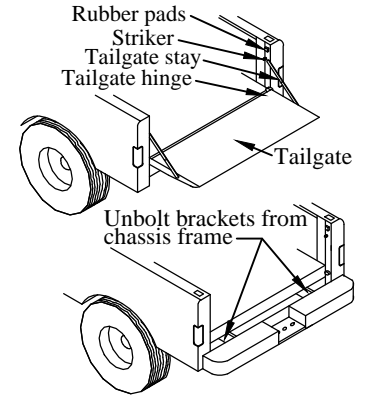

Figure 6: Remove Hardware.
1. **Remove** the tailgate and tailgate hardware (Figure 6).